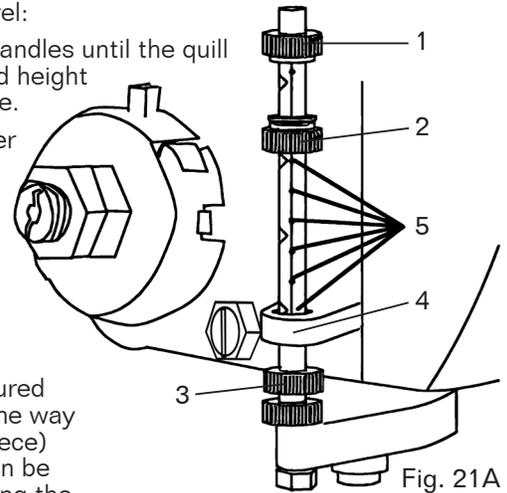

Fig. 21A
ADJUST THE DRILLING DEPTH (FIG. 21A)
1. Rotate the lower depth scale knob (Fig. 21A - 2) until the bottom of the knob is aligned with the desired depth mark (Fig. 21A - 5) on the gauge scale.
2. Rotate the depth scale lock knob (Fig. 21A - 1) until it meets the lower depth scale knob (Fig. 21A - 2). The chuck will stop after travelling downward to the selected distance.
2. Rotate the lower depth knob (Fig. 21A - 3) until it rests against the bottom of the metal gauge support (Fig. 21A - 4).